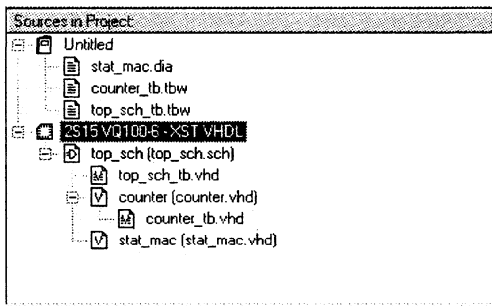

Figure 6.1.1 Sources in Project Window
*Double click on **2S100PQ208-5 – XST VHDL** in the **Sources Window** shown below in figure 6.1.1.*